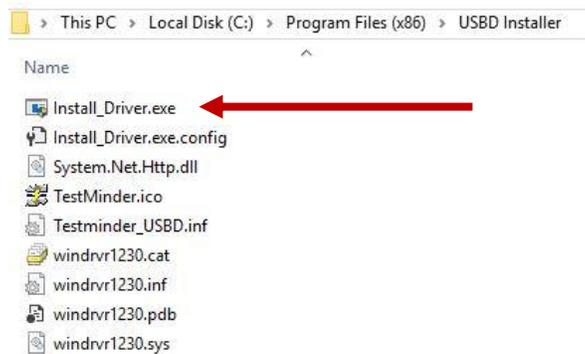

Figure 36 USB D Installer folder contents
1. Go to the USB D Installer folder, default location is “C:\Program Files(x86)\USB D Installer”. Look for the file named “Install_driver.exe” and right click on it then choose “Run as Administrator” (Figure 36).